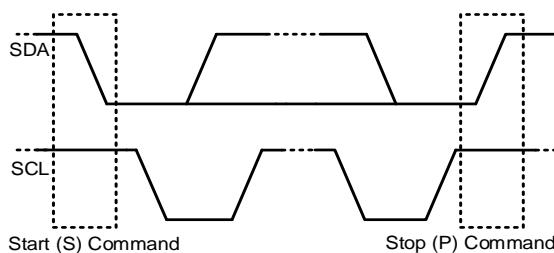

Figure 7: Start and Stop Commands
All transactions begin with a start (S) command and are terminated by a stop (P) command. Start and stop commands are always generated by the master. A start command is defined as a high-to-low transition on the SDA line while SCL is high. A stop command is defined as a low-to-high transition on the SDA line when the SCL is high (see Figure 7).